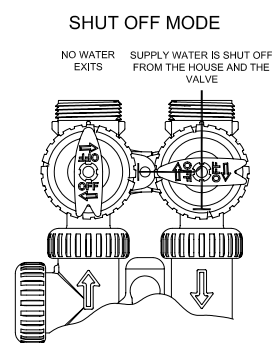

figure 4
4. Shut Off Position: The inlet handle points to the center of the bypass valve and the outlet handle points in the direction of flow, the water is shut off to the plumbing system. If water is available on the outlet side of the softener it is an indication of water bypass around the system (i.e. a plumbing connection somewhere in the building bypasses the system). (see figure 4)